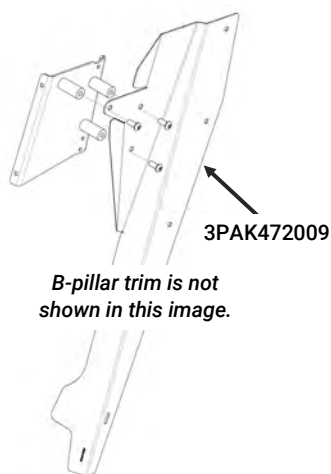

Figure 13
1. Locate the passenger Mounting Plate [3PAK472009] and (3) [3X149] button head screws.
2. Align the (3) holes in the plate with the (3) standoffs protruding through the B-pillar trim. Loosely secure with the button head screws (Fig 13). The fasteners will be tightened in a later section.